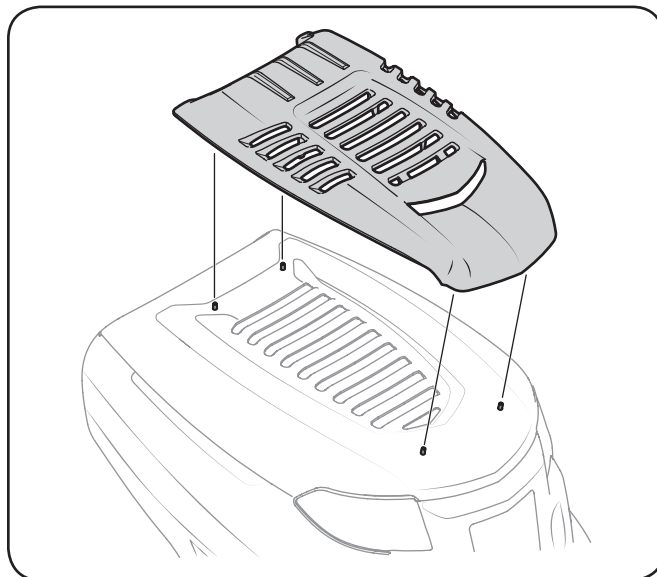

Figure 3-8
2. Install the hood scoop onto the hood of the tractor and secure from the underside using the four screws previously removed. See Figure 3-8.